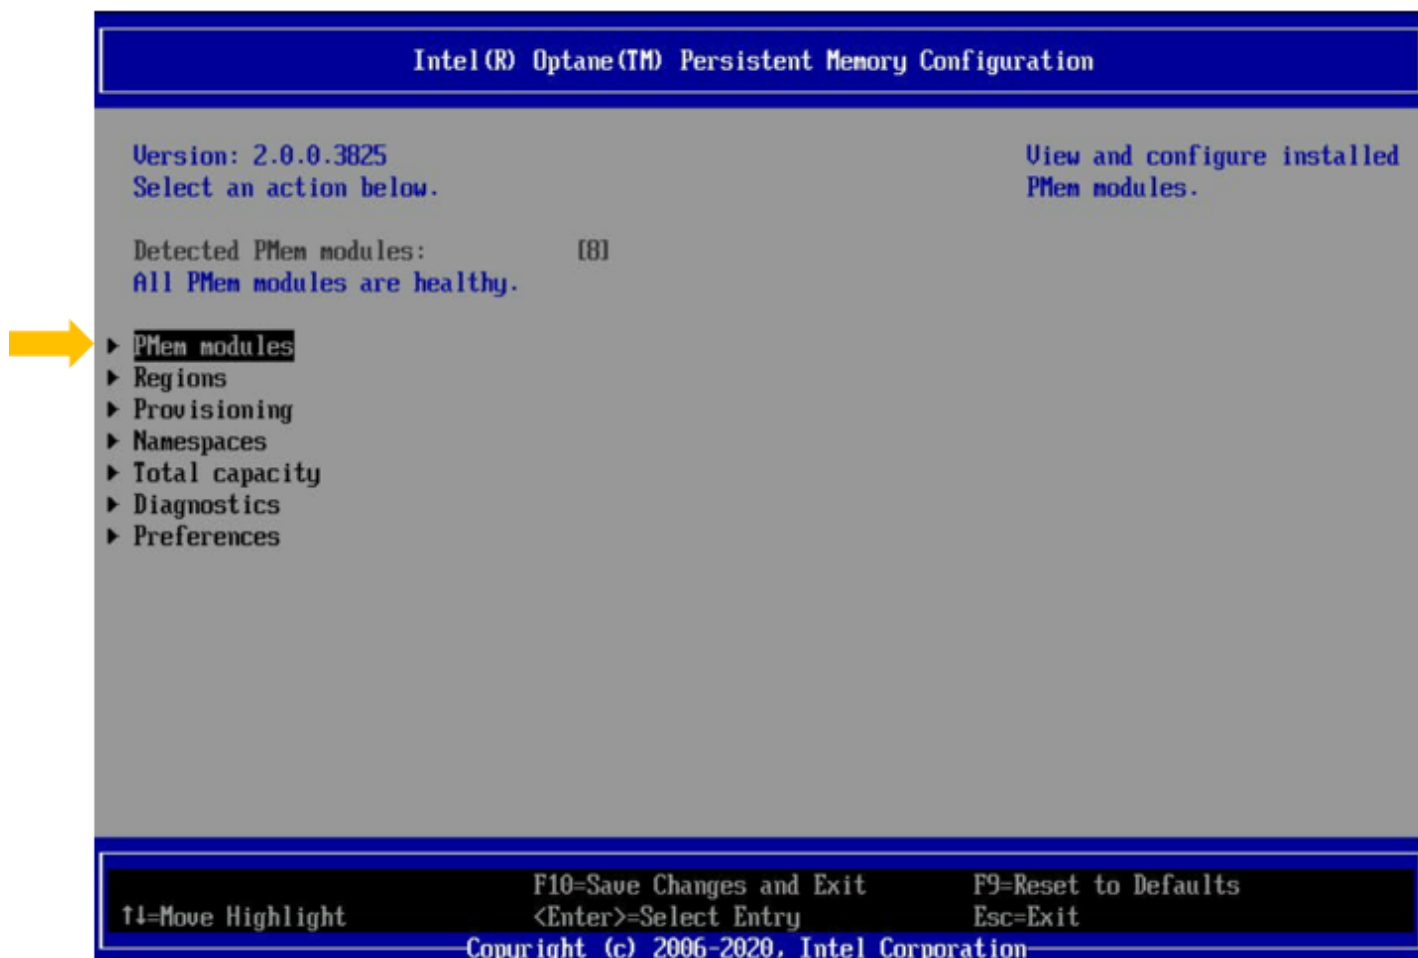

Figure 66. Intel® Optane™ PMem Configuration
Figure 66 shows the main **Intel(R) Optane(TM) Persistent Memory Configuration** screen. This screen shows the count of detected DIMMS, and a quick check of their health.